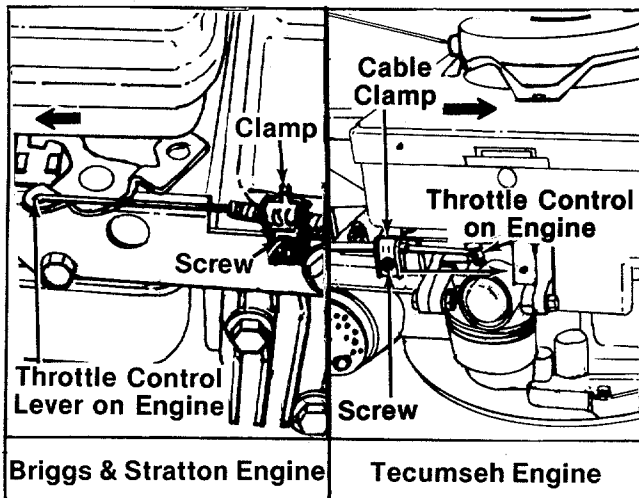

FIGURE 10.
8. Push the throttle control lever on the engine to the full open position (as far toward the outside of the unit as it will go on Briggs and Stratton engines and as far toward the front of the unit as it will go on Tecumseh engines) as shown in figure 10.
10. Remove the screw on the cable clamp shown in figure 10. Slip the control casing under the clamp. With the throttle lever on the engine still in the full open position, replace and tighten the screw to secure the throttle control cable.
1. Loosen, but do not remove, screw securing throttle control wire assembly at engine. See figure 10.